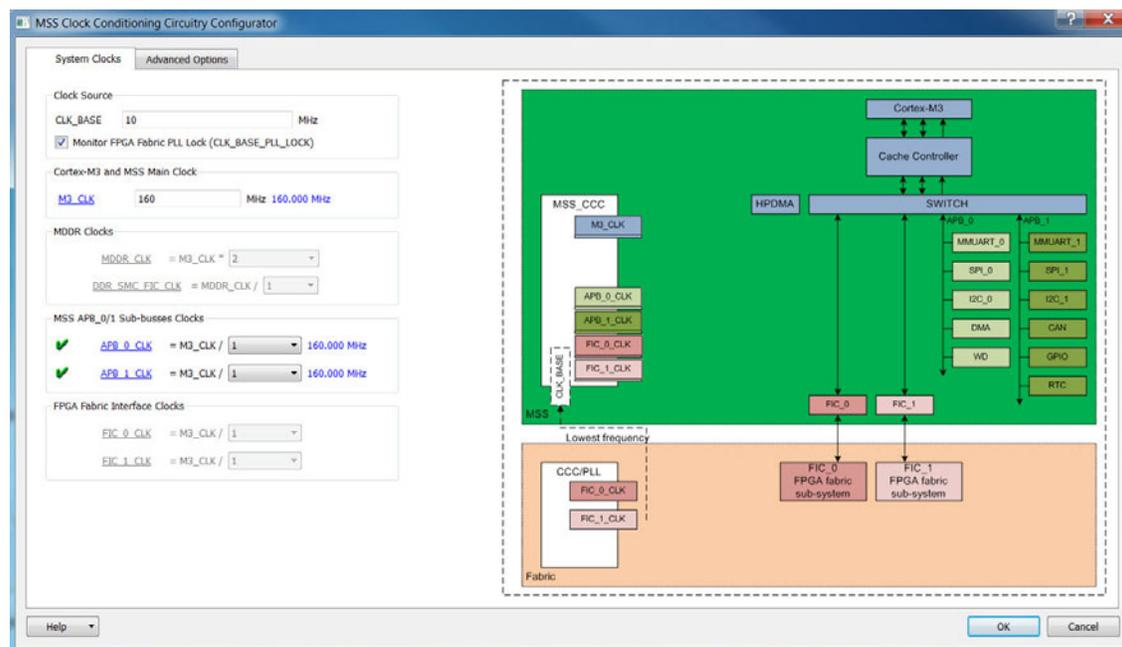

Figure 2-5 • MSS Clock Conditioning Circuitry Configurator
4. Set the MSS_CLK Configurators options as follows (shown in Figure 2-5):